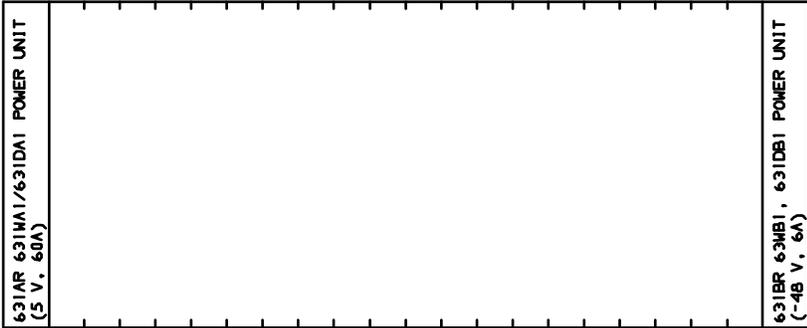

FIGURE 2-24. Power Unit Locations
19. Install the 631-type power units (removed from R1V3) into both the “A” and “B” carriers. There are three different pairs of power units available. They are the 631AR1 and 631BR1, the 631WA1 and 631WB1, and the 631DA1 and 631DB1. Do not interchange the units. The 631AR1, 631WA1, or 631DA1 are installed in the left side, while the 631BR1, 631WB1, or 631DB1 are installed in the right side (see Figure 2-24).